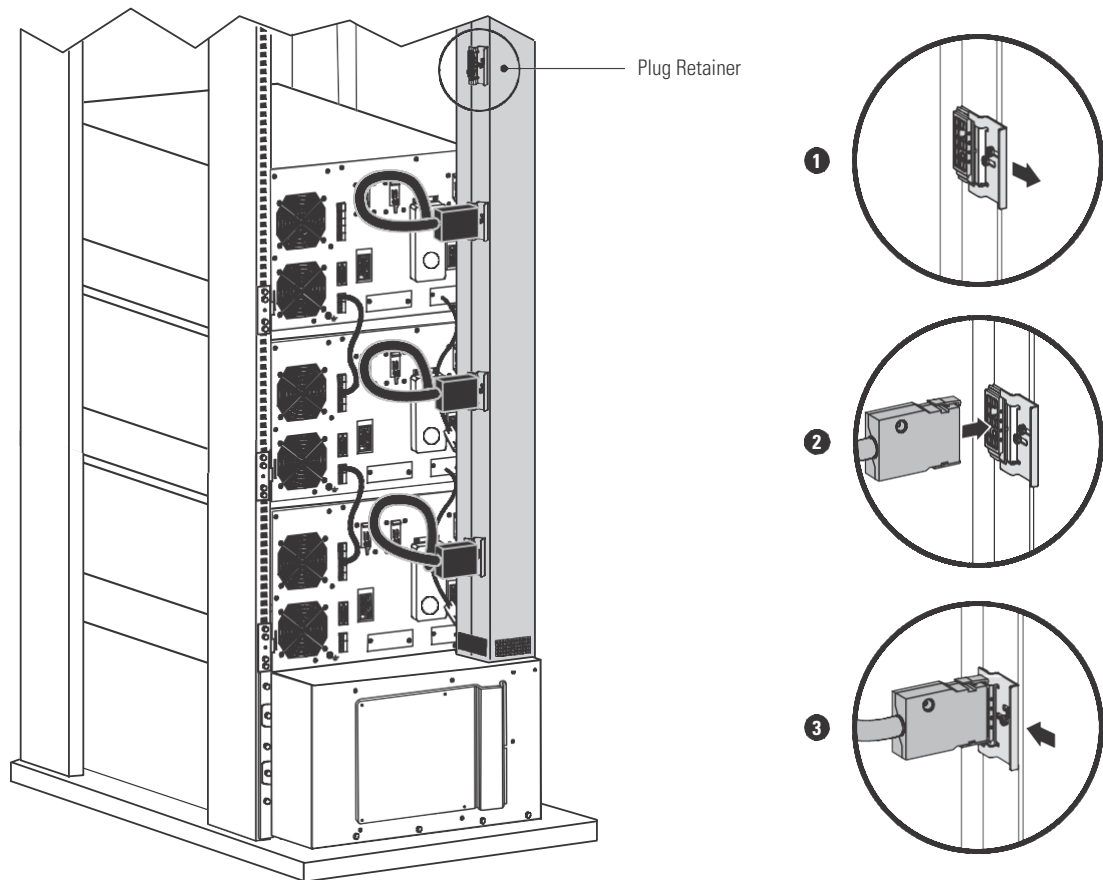

Figure 68. Connecting UPSs to the BladeUPS Bar (Bottom Entry Shown)
5. If there is a Jumper J7 on the Powerware Hot Sync CAN Bridge Card, remove and discard (see Figure 68 on page 84).
5. If there is a Jumper J7 on the Powerware Hot Sync CAN Bridge Card, remove and discard (see Figure 68 on page 86).
14. Connect the parallel input cord from each paralleled UPS, as shown in Figure 68:
19. Connect the parallel input cord from each paralleled UPS as shown in Figure 68 on page 84: